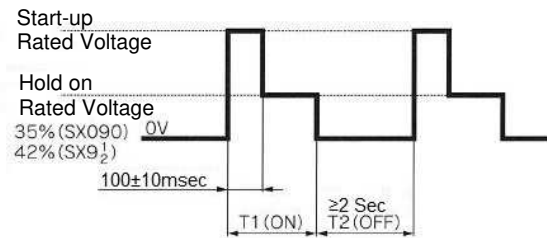

Figure 1. Energisation waveform
- When using a valve without the power saving circuit, energise as shown in figure 1, using the voltages from table 2.